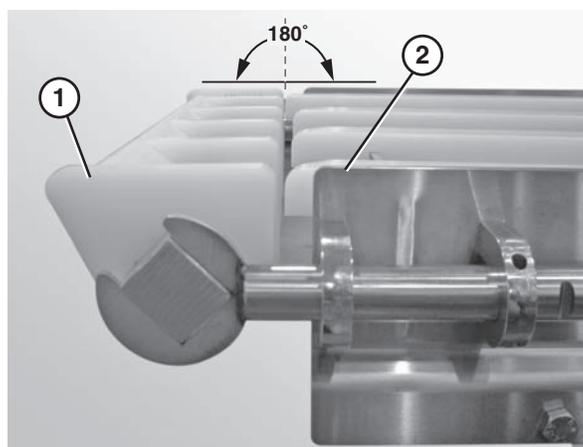

Figure 31
5. Ensure that the nose bar pucks (**Figure 31, item 1**) are in line with the conveyor frame (**Figure 31, item 2**).